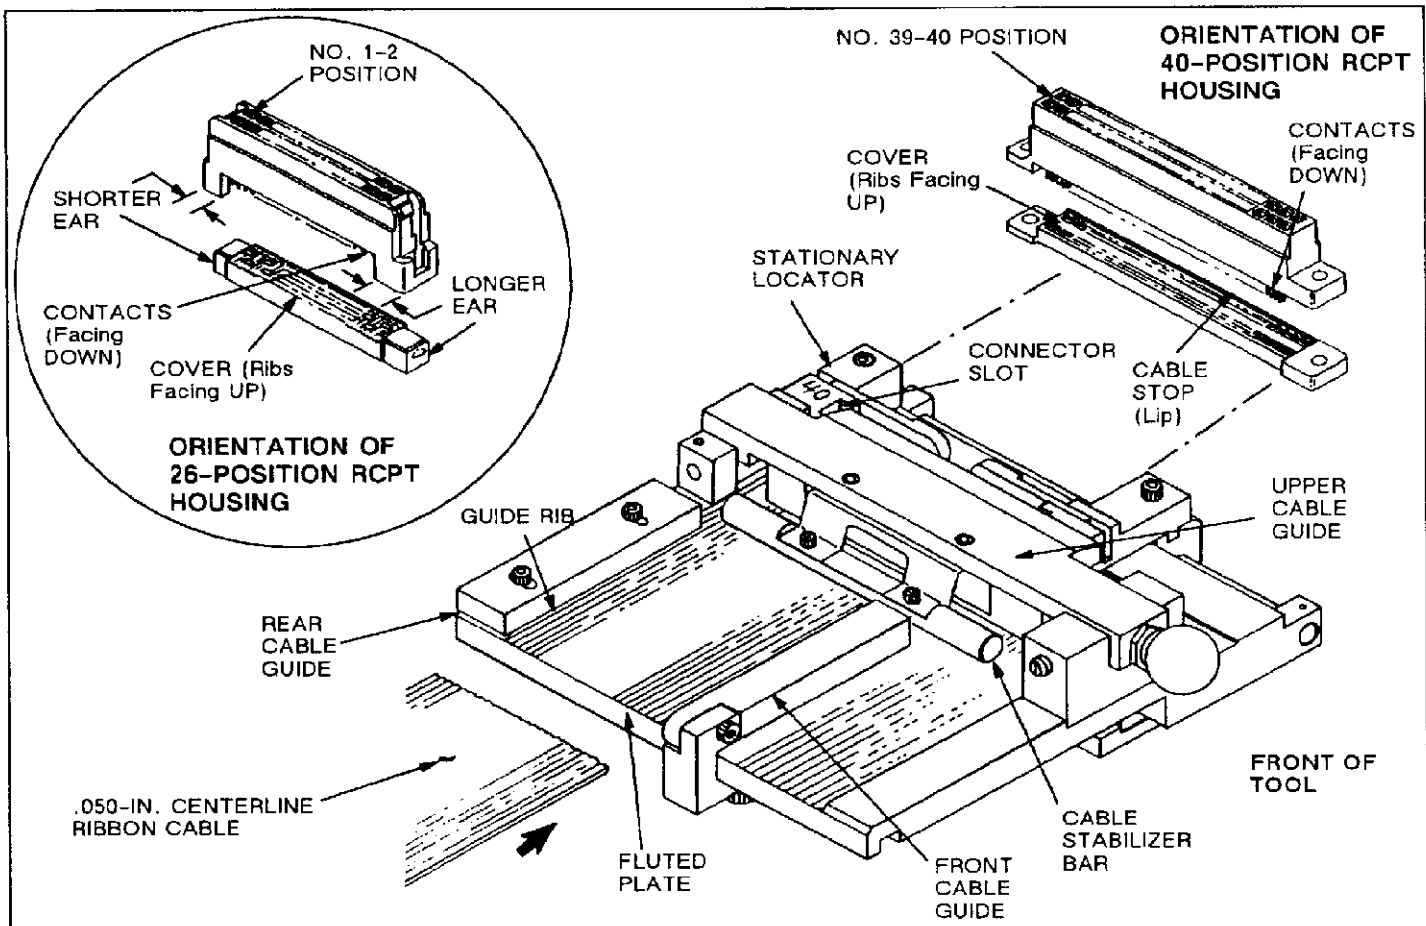

Fig. 5
## B. Terminating Procedure (Figure 5)
3. Place appropriate housing assembly over cable and cover in connector slot. Make sure that housing is oriented correctly and that contacts are facing **DOWN**, as shown in Figure 5.